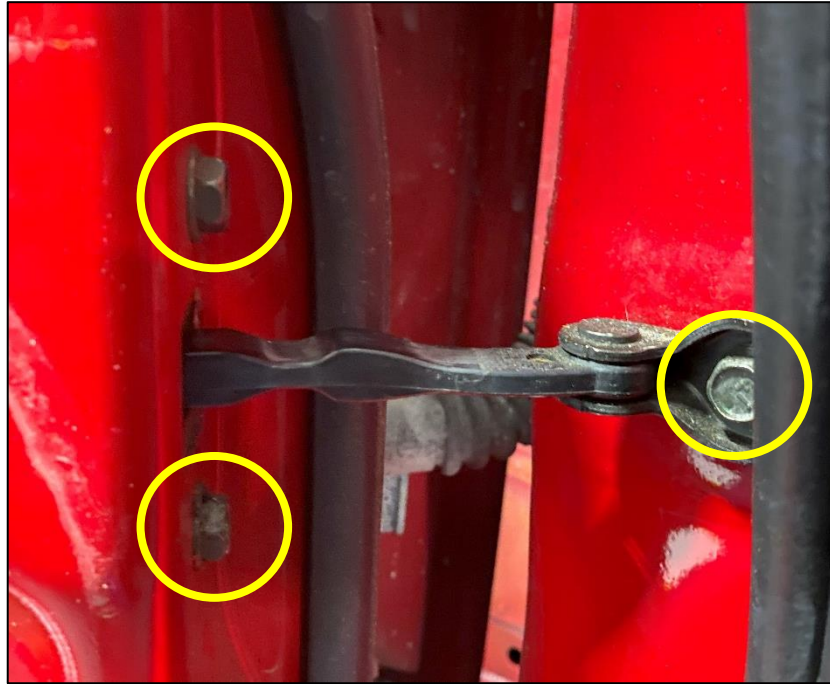

Figure 9
14. Open the door as wide as you can. Remove the (3) three Bolts in the Door securing the Check Link. *Figure 9.*